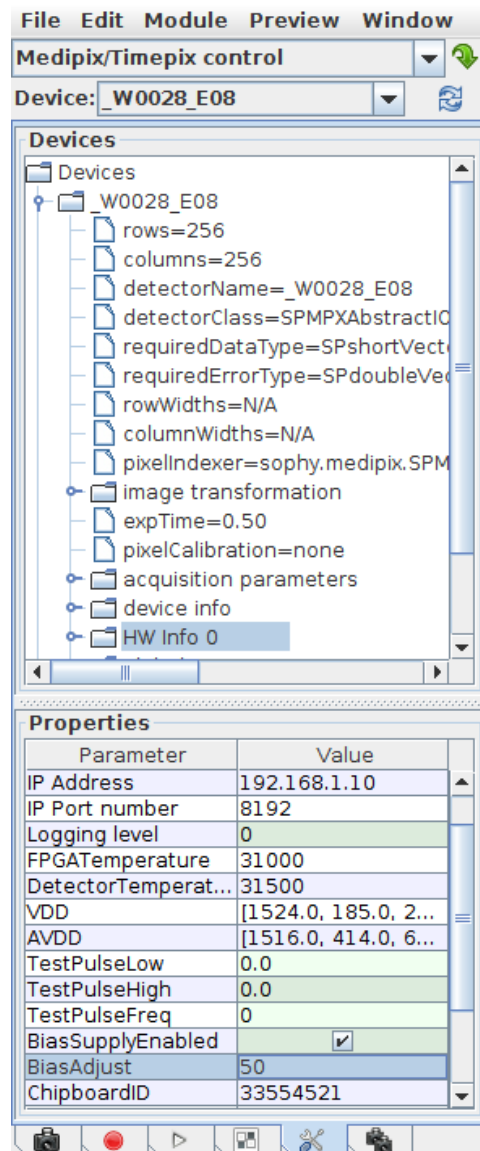

Figure 3. Detector settings panel.
- By default, and in the case that no previous configuration files were loaded, the bias voltage for a new detector is 12 V. In SoPhy, this value can be adjusted in the hardware settings as shown in Figure 3. If it is the case, please load the .spx setting file in Sophy, and check this value again. It should read 40 V or 50 V now. Improper bias voltage applied on the sensor, may cause the problem to obtain good images from the detector.